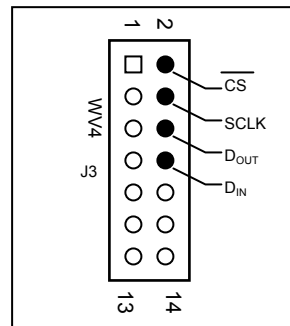

Figure 2: J3 WaveVision4 Serial Interface Header
4. The digital inputs and outputs are available at header J3. Refer to *Figure 2* for connection details. The source used to create signals SCLK, CSB, and D_{IN} must meet the digital input characteristics in the ADC128S102 datasheet.
If the Evaluation board is used in Stand-alone mode, the onboard oscillator and signal applied to J6 do not drive the SCLK pin. Rather, an external source such as a pattern generator must supply the digital signals (CSB, SCLK, D_{IN}) to drive the ADC128S102. These signals must be applied at J3, the Serial Interface Header (See Figure 2).